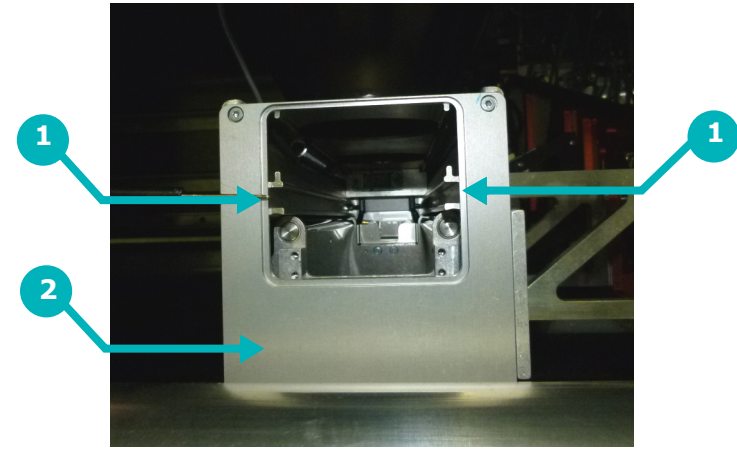

Figure 2-70: Edge Guides on Lamp Housing
1. Locate two edge guides in lamp housing end, Figure 2-70.